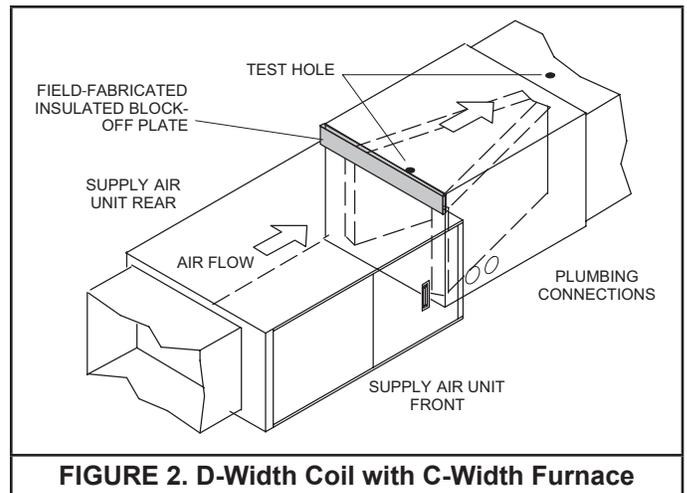

FIGURE 2. D-Width Coil with C-Width Furnace
- 5 - **Applications using CHX35-60 D-width unit with C-width furnace** – Figure 2 shows an application that includes a D-width coil and a C-width furnace. This application requires construction of an insulated, field-supplied block-off plate to cover the open space on the coil housing